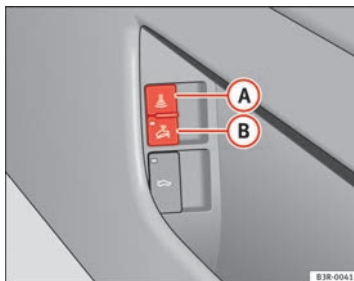

Fig. 78 Interior monitoring switch
- Open the door and pull out the switch **A** (with the symbol ) to one side of the storage compartment, in the driver door ⇒ fig. 78.
- Open the door and pull out switch **B** (with the symbol ) to one side of the storage compartment, in the driver door ⇒ fig. 78.